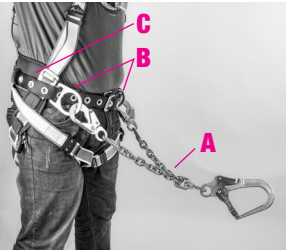

Figure 4: Correct Attachment to Side D-Rings
- An ANSI tested and rated full body harness with side d-rings must be used with the Malta Dynamics Rebar Chain Assembly. Harness must be donned before use. Snap hooks must be attached to side D-rings. Attach the rebar hook to the rebar. **See Figure 4.**